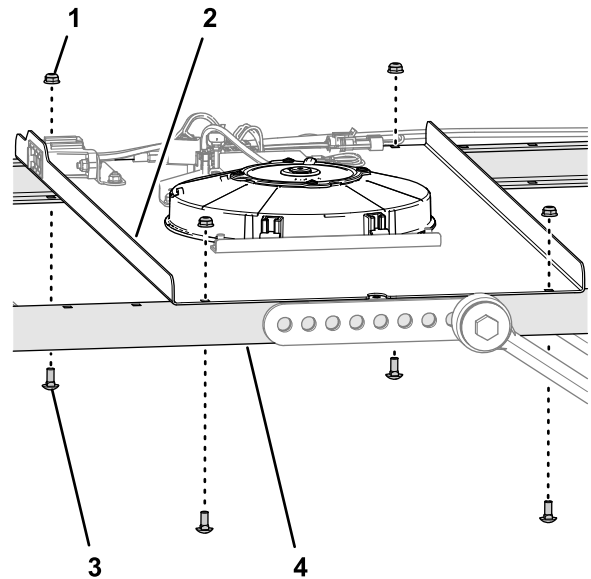

Figure 12
- B. Remove the 4 carriage bolts (1/4 x 5/8 inch) and 4 flange locknuts (1/4 inch) that secure the switch panel to the left and right side-frame channels (Figure 12).
- D. Assemble the switch panel to the side-frame channels with the carriage bolts and locknuts (Figure 12) that you removed in step 3B.